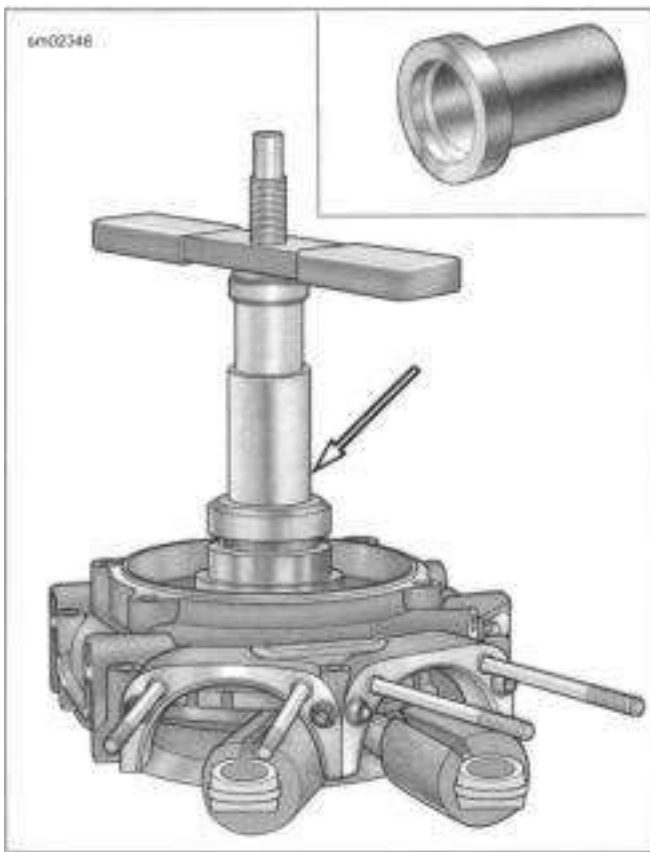

Figure 4-65. Sprocket Shaft Oil Seal Installer
9. See Figure 4-65. Install new sprocket shaft oil seal using components from the following tools.